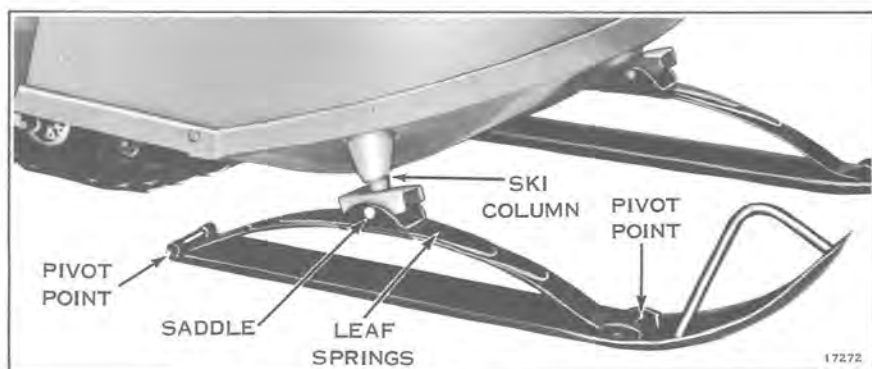

Figure 11-3
- a. Reassemble skis to leaf springs. Lubricate pivot points using SAE #10 oil. See Figure 11-3.